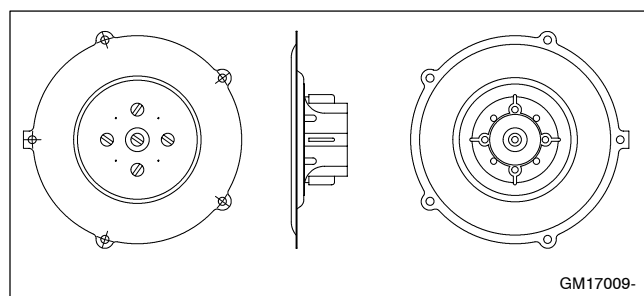

Figure 5 Fuel Diaphragm
- 2.2 Remove the fuel mixer cover plate and natural gas fuel diaphragm. See Figure 5. Save the natural gas fuel diaphragm for possible future conversion back to natural gas.